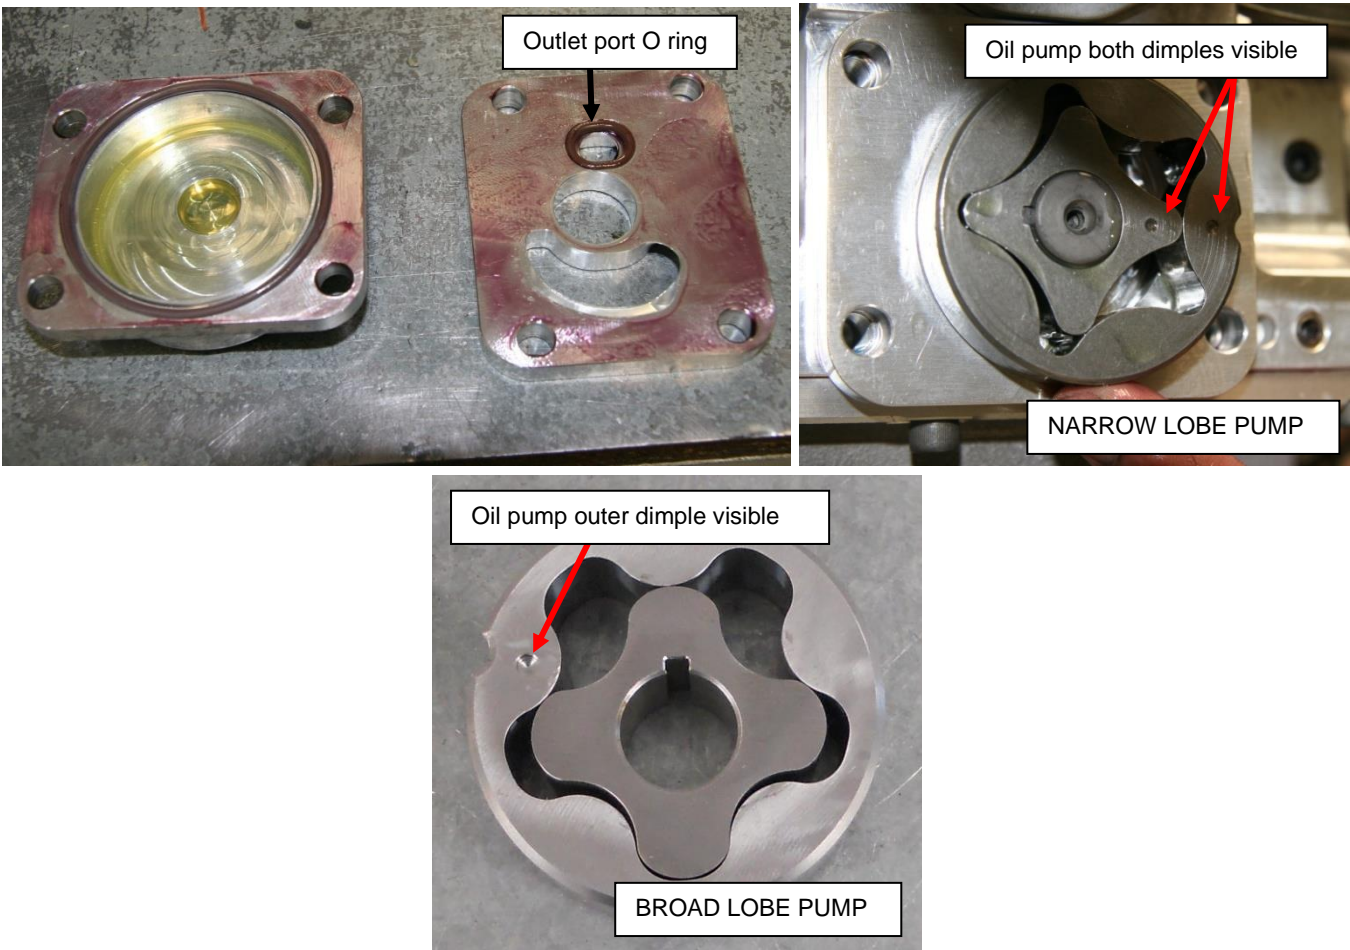

Figure 207 – Fitting Oil Pump & Port Plate
- Fit a new BS112V O ring to the port plate to seal the pressure delivery port (Figure 207).
- For the **Narrow Lobe Pump**, Both dimples must be visible (i.e. facing outwards) Figure 207.